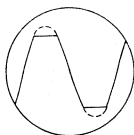

Fig. 21 Waveform when the dummy load resistor is 2.7 Ω
4. At this condition, set dummy load resistor switch to "2.7 Ω " position and turn operating point adjustment semi-fixed resistor VR-1 counter-clockwise to the point at which the output waveform is erased and from this point, turn clockwise again about 20° from erased point. With a 2.7 Ω dummy load resistor, the waveform will appear as shown in Fig. 21.